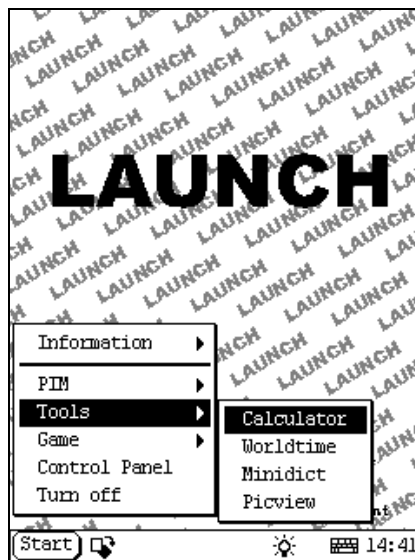

Figure 4-04
- 3) Select the function needed in the pop-up submenu. (Refer to Figure 4-04)